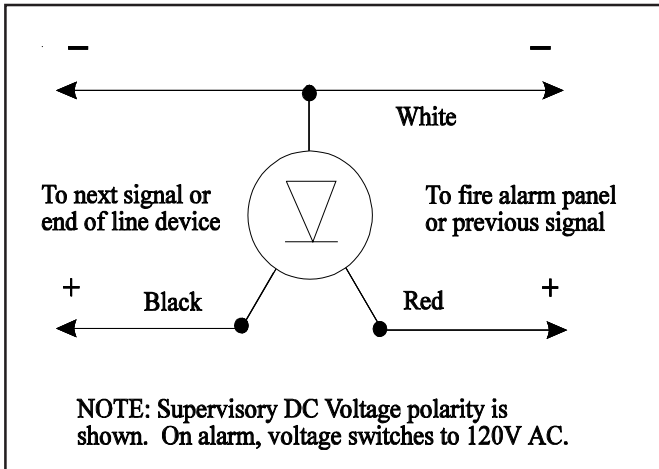
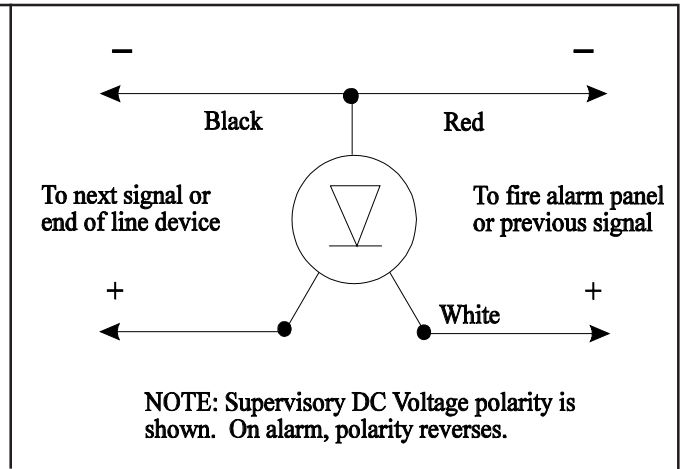

Figure 2. 888D-N5 - Fire alarm system use or other applications requiring a supervised signaling circuit.
Figure 3. 889D-AW - Fire alarm system use or other applications requiring a supervised signaling circuit.
3. Make required power supply wiring connection and make wiring connection to next signal or end-of-line device in outlet box. For 888D-N5, see Figure 2. For 889D-AW, see Figure 3.